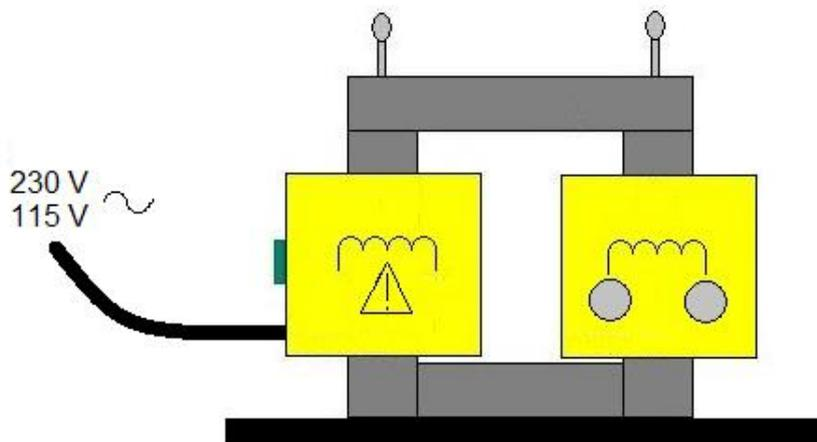

Fig.1 Experimental set-up
- Assemble the transformer as in Fig.1 and place it on a heat-resistant surface.